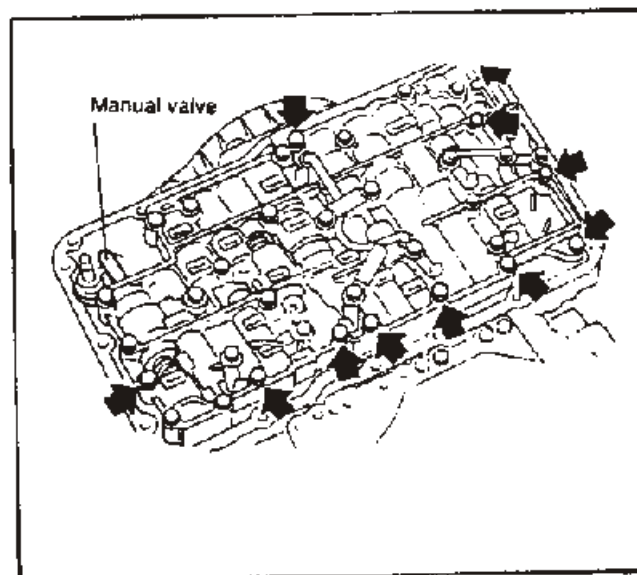

Figure 3
7. Disconnect the harness connector from the valve body, and remove ONLY the valve body bolts indicated in Figure 3.
8. Remove and replace the 6 springs that are numbered, as shown in Figure 3.